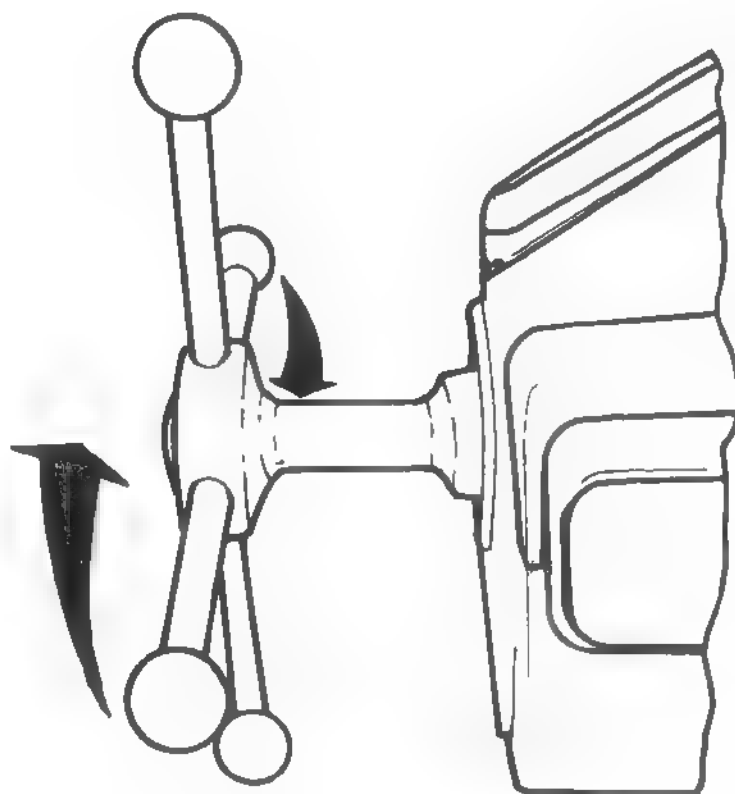

Fig.4.61. TURNING ROUND CRANKSHAFT BY MEANS OF D-18 DEVICE.
- Turn the crankshaft by means of D 18 cranking device, until the piston rod bearing caps of cylinders 1 and 4 reach their outer position (outer dead centre) (see Fig.4.61).